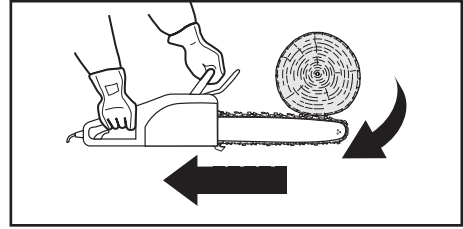

Fig. 24
2. Pinching the saw chain (12) along the top of the guide bar (13) may push the guide bar rapidly back toward the operator (Fig. 24).